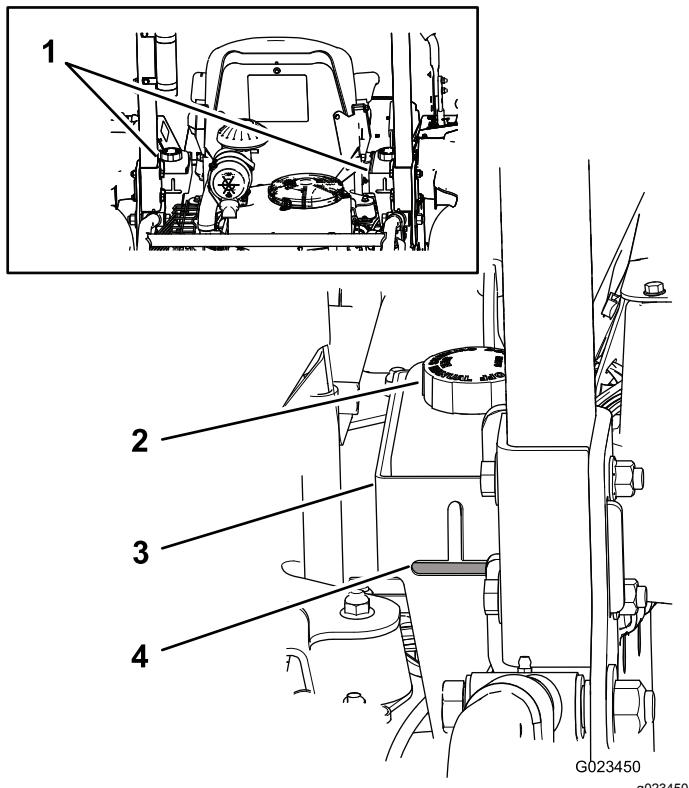

Figure 17
The reservoirs of the machine are filled at the factory with high-quality hydraulic fluid. The best time to check the hydraulic fluid is when the fluid is cold. The machine should be in the transport configuration. If the fluid level is below the top of the horizontal part of the cut-out sight window on the rear of the hydraulic reservoirs (Figure 17), add fluid to bring the fluid to the acceptable level. **Do not overfill the reservoirs.** If the fluid level is at the top of the horizontal part of the sight window, no fluid addition is required. The recommended replacement fluid is:
Note: The fluid level should be at the bottom of each of the openings, as shown in Figure 17.
- A. Clean the area around the fluid-reservoir caps to prevent debris from entering the system (Figure 17).